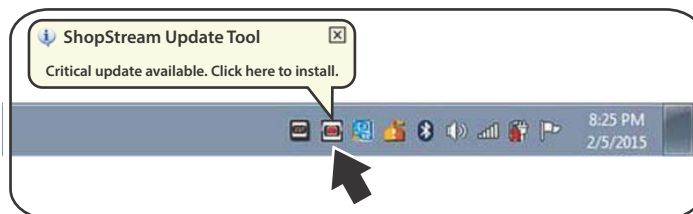

Figure 16-8 Typical upgrade installation message
1. Select the software upgrade available message (Figure 16-8), or the SST icon from the Windows taskbar notification area.